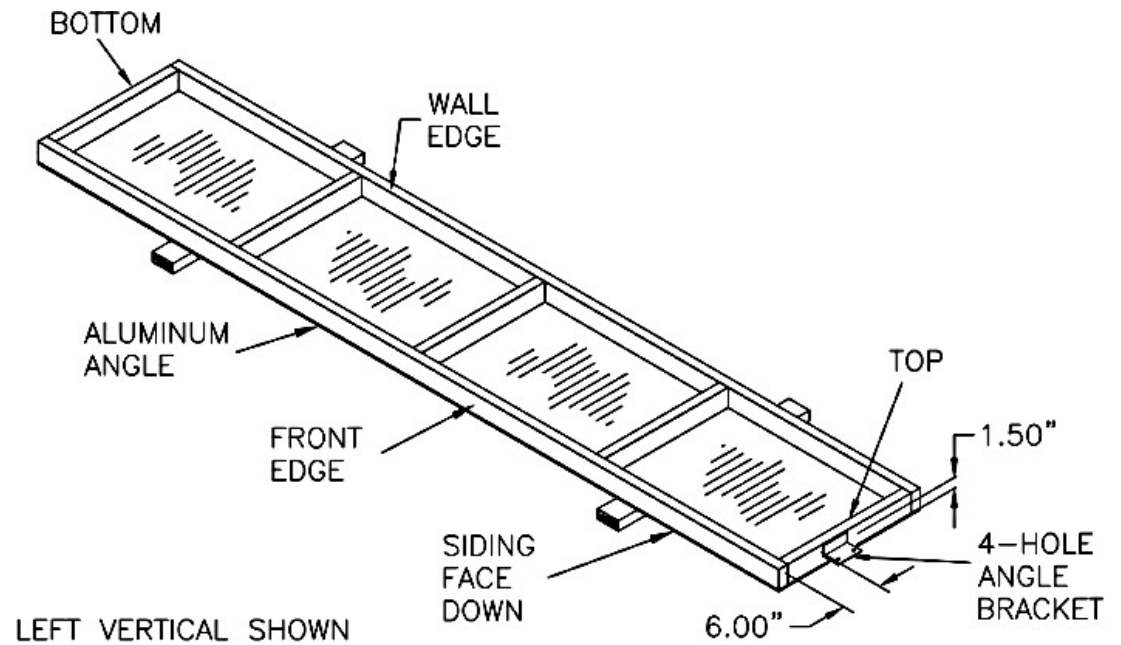

FIG 4
b. Position 4-hole Angle Bracket on Vertical Frame (Figure 4).